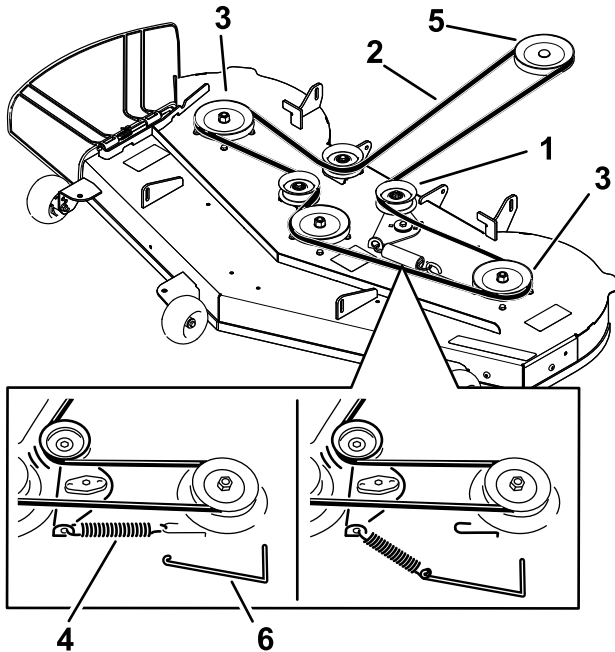

Figure 47
5. Using a spring-removal tool (Toro Part No. 92-5771), remove the idler spring from the deck hook to remove tension on the idler pulley and roll the belt off the pulleys (Figure 47).
6. Route the new belt around the engine pulley and mower pulleys (Figure 47).
7. Using a spring-removal tool (Toro Part No. 92-5771), install the idler spring over the deck hook and place tension on the idler pulley and the mower belt (Figure 47).